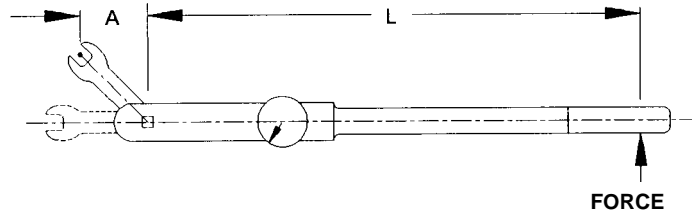

FIGURE 1-11: TORQUE WRENCH WITH ADAPTOR AT ANY ANGLE
9. The ratio of actual torque at the fastener with that on the wrench scale is a function of the adapter's length and its position in relation to the torque wrench beam and the location on that at which the force is applied (see Figure 1-11:).